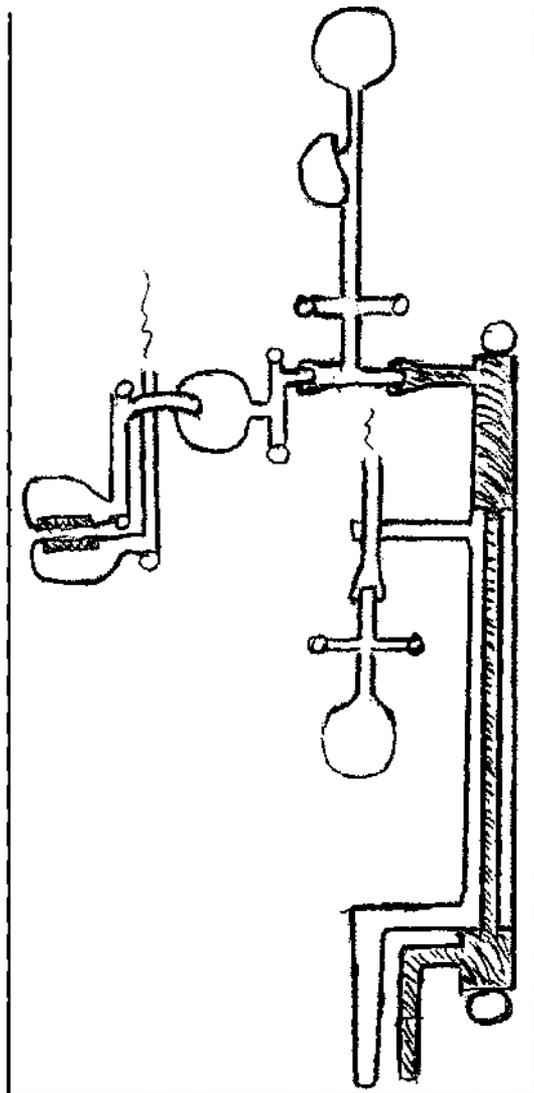

Figure 4: Sketch of bass joint showing continuation of alternate low C and D mechanism and automatic low Eb mechanism.
5) Automatic Low E^b Mechanism (Figure 4)